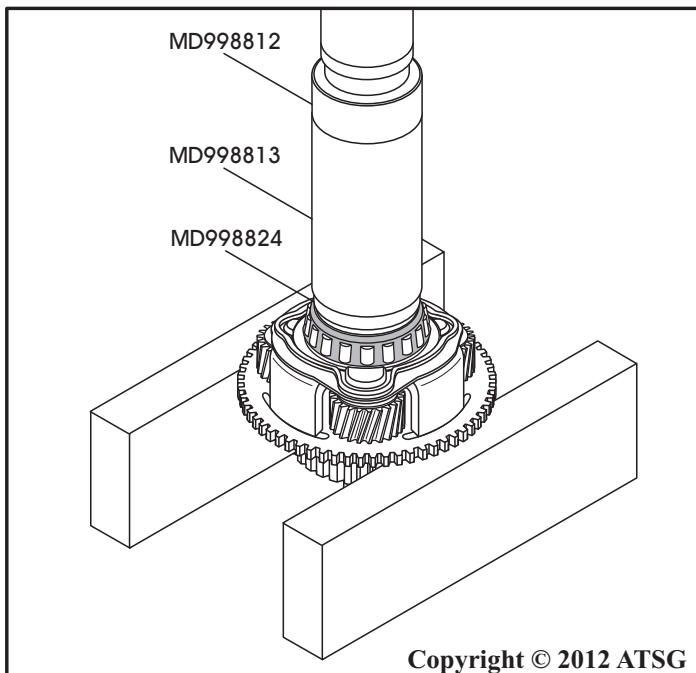

Figure 174
10. Press a new tapered roller bearing onto direct planetary carrier, as shown in Figure 174, using the proper adapters.